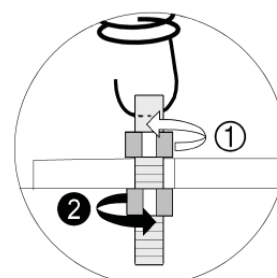

Fig. 63
- perform operations 1 and 2 shown in Fig. 63.